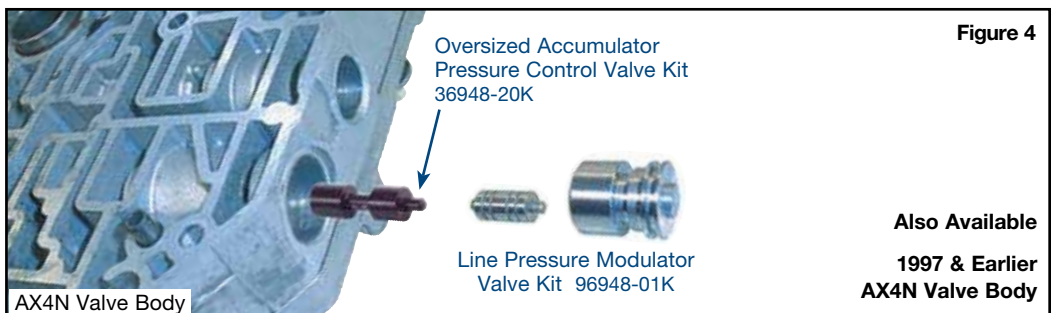

Figure 4
- A.** Inspect the line pressure modulator sleeve and inner valve. If the valves are worn, order Sonnax line pressure modulator valve kit, 96948-01K (Figure 4).
- B.** Inspect the accumulator pressure control bore. Valve should be set into position it regulates and should not have side or up-down movement. Worn valves and bores can be repaired with the Sonnax oversized accumulator pressure control valve kit 36948-20K, which requires tool kit 36948-TL (Figure 4).